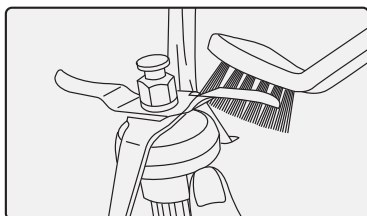

Figure 45
- Clean the blades with a brush and under the tap ensuring that the water only has contact with the top of the blades (Figure 45).